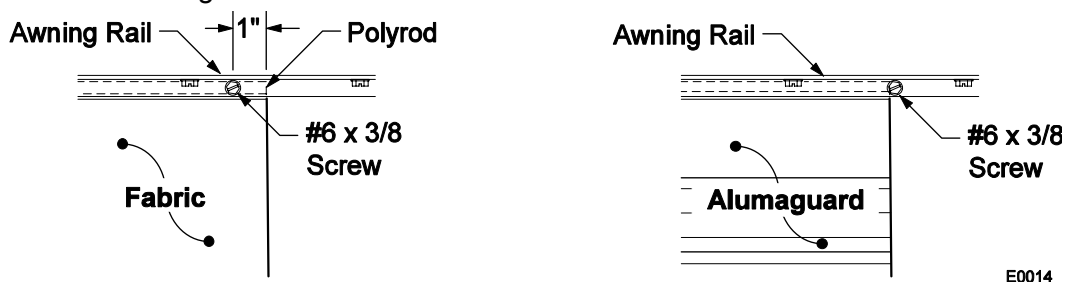

Figure 6. Securing the Fabric.
3. (Refer to Figure 6) Secure the canopy fabric or Alumaguard using one, #6 x 3/8" hex head screw at each side of the awning.